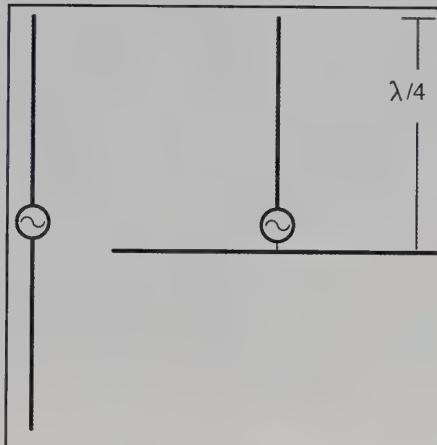

Figure 1. A 1/2-wave dipole and 1/4-wave over a ground plane.
**T**he classic 1/2-wave dipole antenna is shown in figure 1. The 1/4-wave ground plane uses the ground reflection to act as the other half of the dipole. Okay so far, but in photo A we have a small VHF transmitter from RF Monolithics®. That half-inch-square board is not going to act like a VHF ground plane; it's far too small. Therefore, a 1/4-wave antenna is simply not going to work well, as it's only half of the antenna.